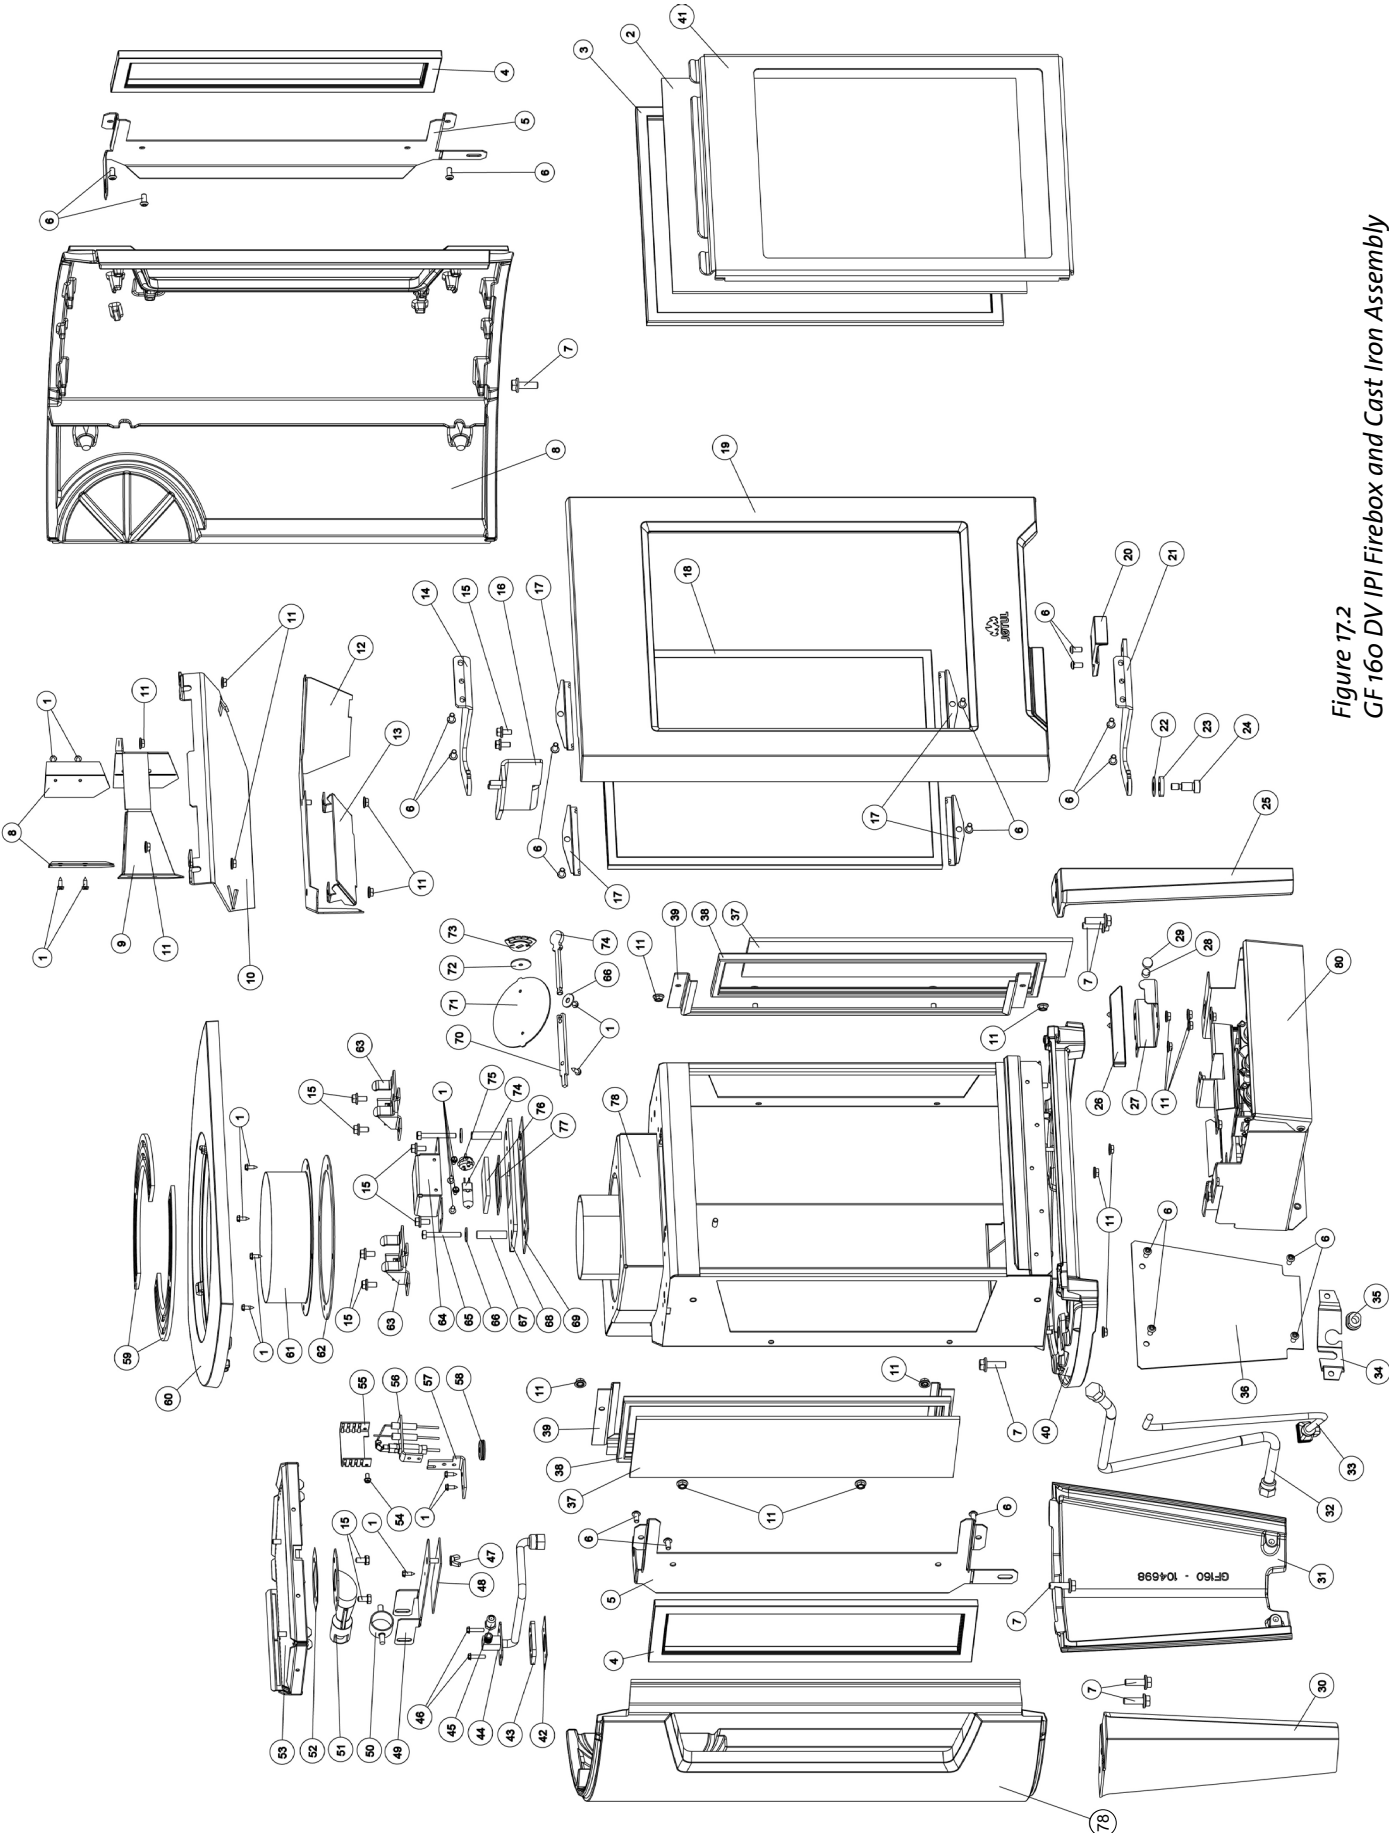

Figure 17.2
5. **Remove the Exhaust Baffle,** (#10, fig. 17.2) from the firebox with removal of two, 10 mm hex nuts, #11. See also Fig. 7.3, page 16.
- Refer to fig. 16.3 and fig. 17.2 to locate the M8 hex bolt, #7, that attaches the cast iron Side Plate to the stove Base Plate, #40.
The side screens are secured to the side plates by a steel bracket, #5, fig. 17.2, page 36, which must first be loosened to remove the screen frame.